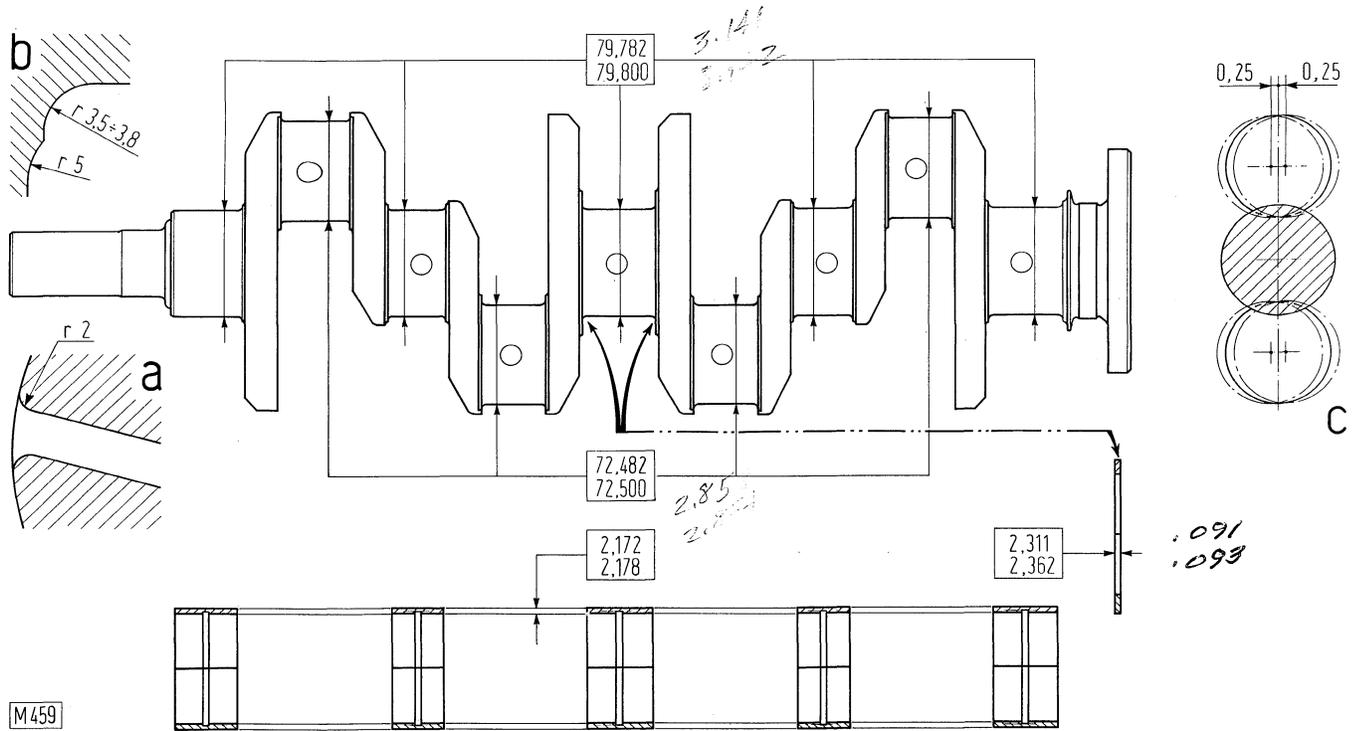

Fig. 2-16 Crankshaft journal, bearing and thrust washer details
After grinding, blend in the fillets and chamfer the lubricating holes as shown in Fig. 2-16.
- Maximum crankpin misalignment should not exceed  $\pm .25$  mm or .01 in when measured as shown (c, Fig. 2-16).